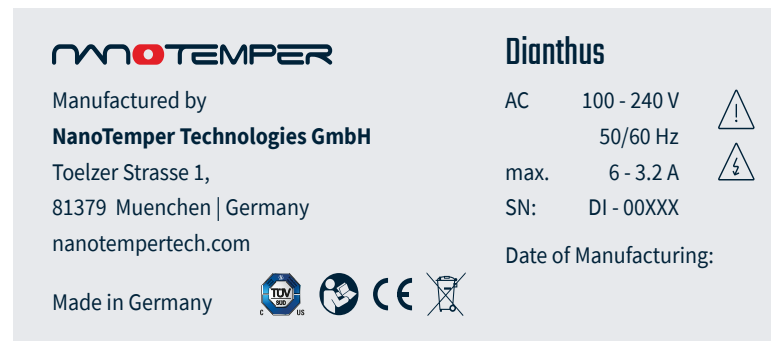

Figure 1: Identification label for Dianthus uHTS.
The identification label (Figure 1) is positioned at the rear panel of the instrument. It includes manufacturer information, system model name and serial number (SN), electrical requirements, and the CE conformity symbol.